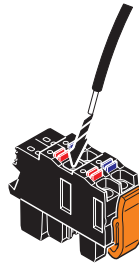

Figure 5-3 Connecting a rigid conductor
1. Connect the power supplies to the supply connector as shown in Figure 5-3 and in Figure 5-4. Note the information in Section 3.16.